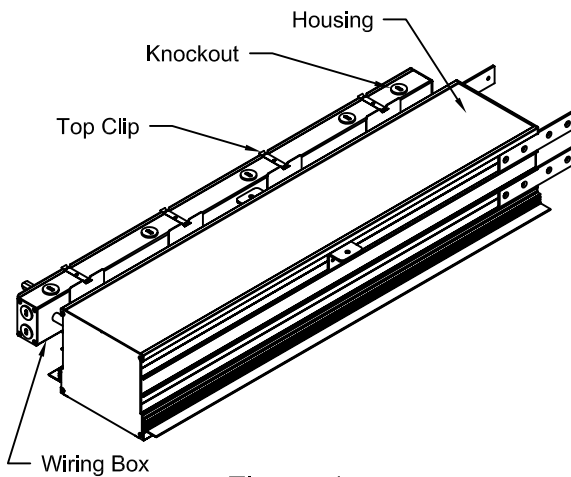

Figure 1
1. Hang Housing(s) from Hanger Brackets located on sides of Fixture(s) using 1/4-20 Screw. See Fig. 1 and Fig. 3.
2. Connect Wiring Box to Electrical Service using Knockouts located at each end of Wiring Box and Knockout along top of Wiring Box as needed. See Fig. 1.
3. To remove Rear Access Panel(s) for inspection, lift Clips at Top and Bottom of Wiring Box. See Fig. 1 & Fig. 3.